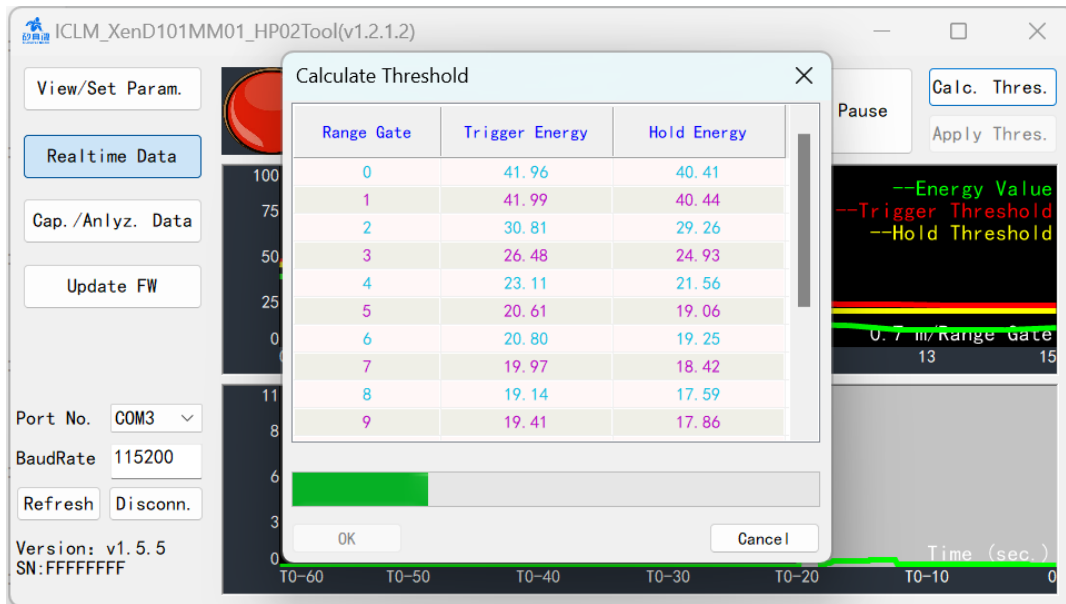

Figure 4-5 Calculate Threshold page
- Step 1: On the Realtime Data page, when the Start/Pause toggle button displays Pause, click the **Calc. Thres.** button to start scanning environmental noise, a window named Calculate Threshold will appear displaying the trigger energy and hold energy of each range gate in a table, and the scanning process bar below the table, as shown in Figure 4-5;